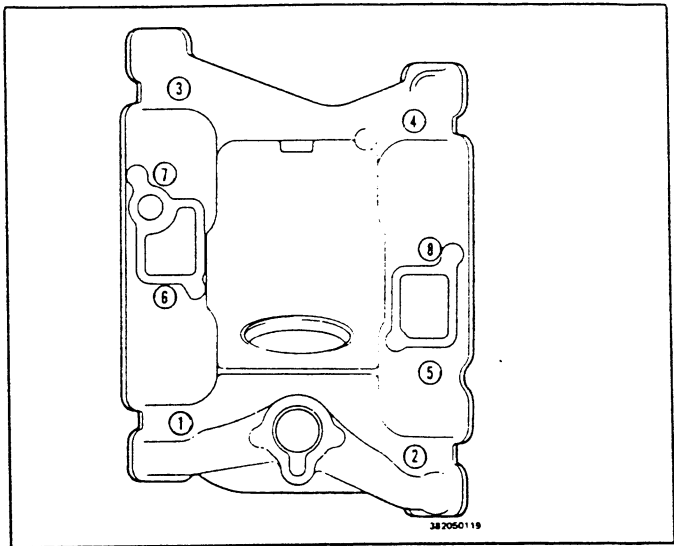

Fig. 18 Intake Manifold Torque Sequence
- Torque in sequence (Fig. 18) to 20 N·m (15 lbs. ft.). Then retorque to 55 N·m (41 lbs. ft.).